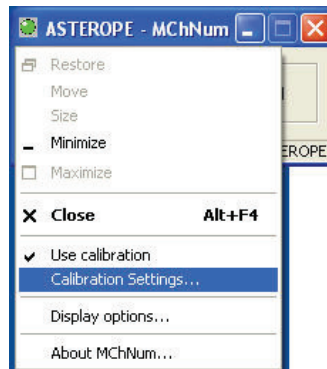

Figure 5-1 MChNum context menu
3. Click the Green LED at the top left corner of the MChNum Browser window or right click the top pane to display the MChNum context menu (Figure 5-1).